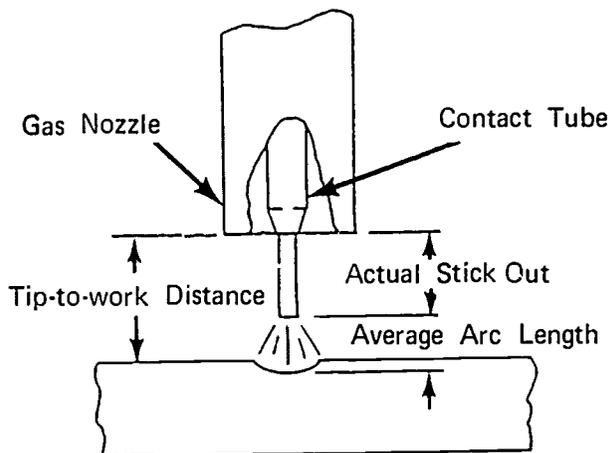

FIGURE 2
4. Adjust and maintain correct stick out (Figure 2, next page)